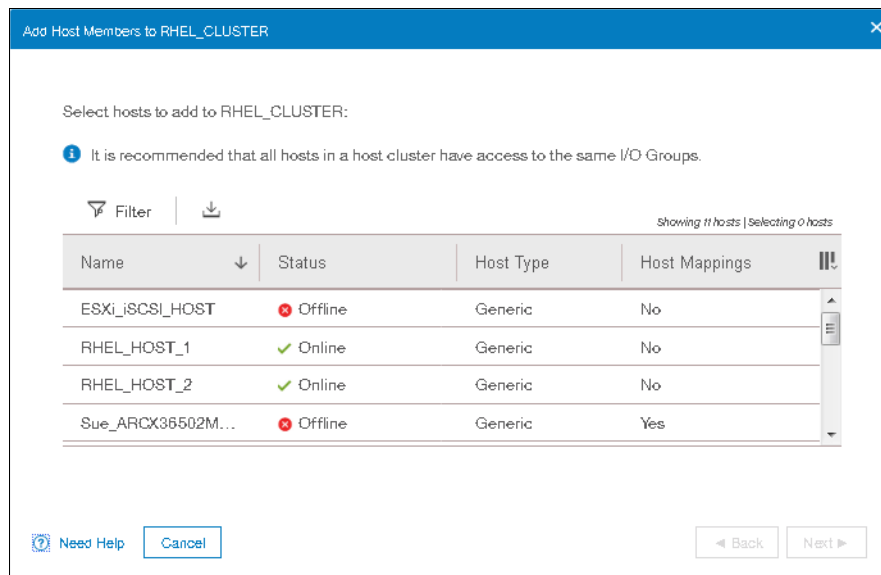

Figure 5-79 Host selection window
2. Click **Add Host** and you will get a selection window as shown in Figure 5-79.